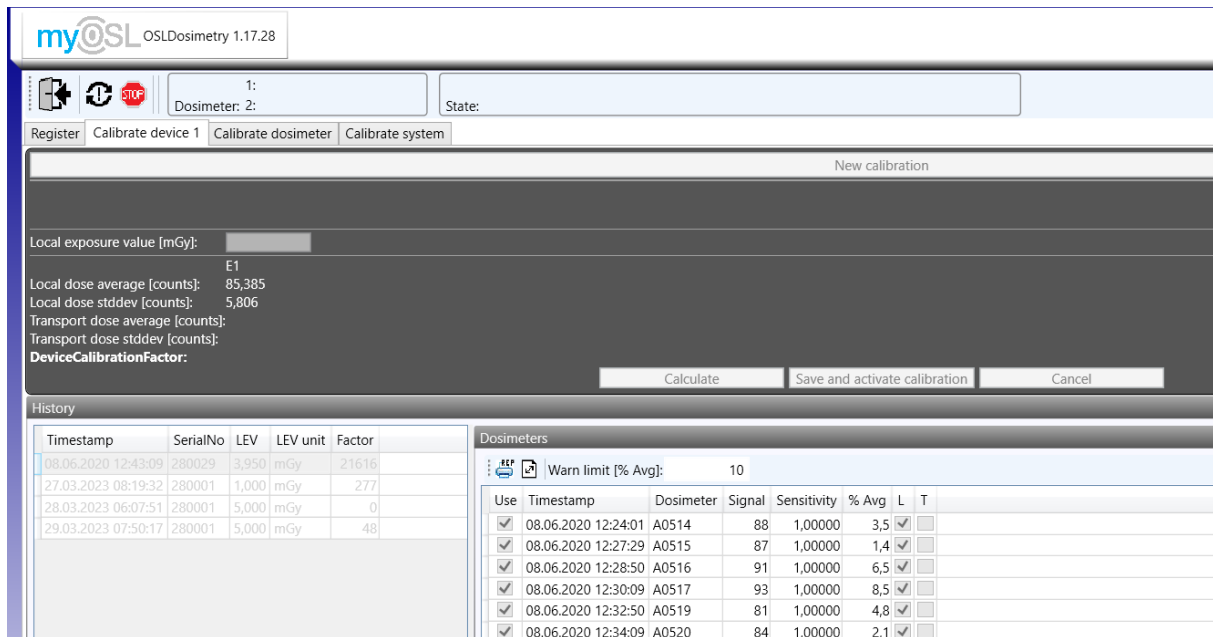

Figure 30 Calibrate device screen.
- 2.) Enter the device sensitivity calibration with the tab "Calibrate device" (Figure 30)